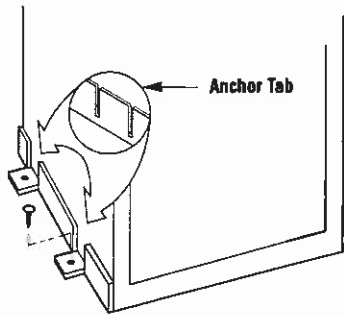

Figure 15
Step 4. Firebox may be anchored to floor. Bend down four (4) anchor tabs located at the base of the firebox and secure to the floor by nailing with 8d nails (*Figure 15*).